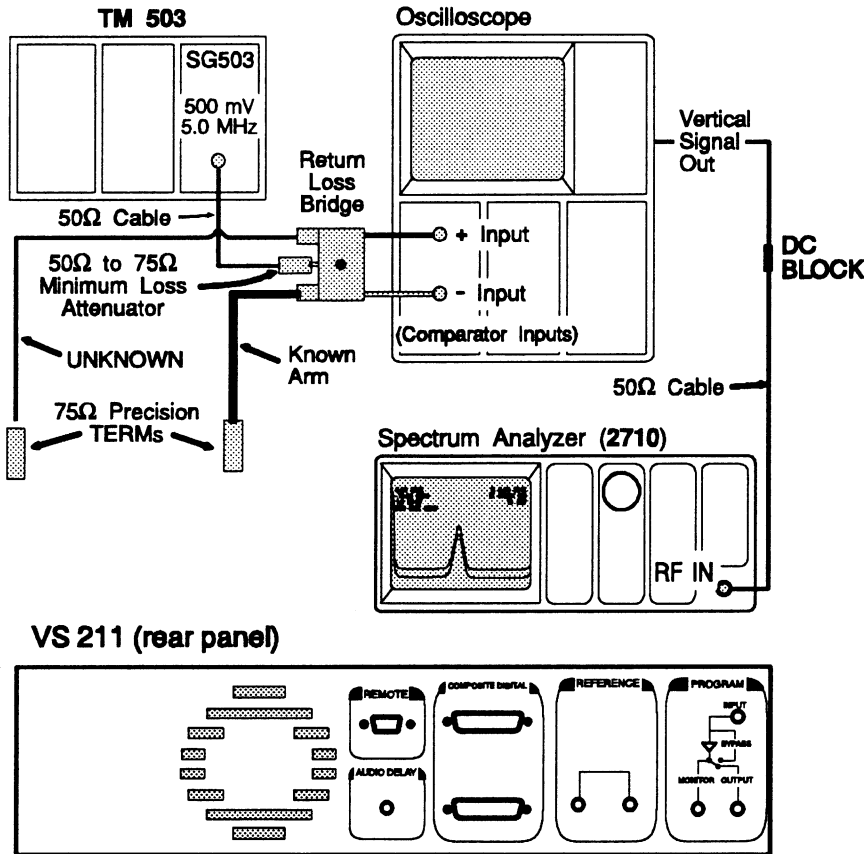

Fig. 4-20. Setup to measure return loss.
- a. Connect the equipment as shown is Fig. 4-20.